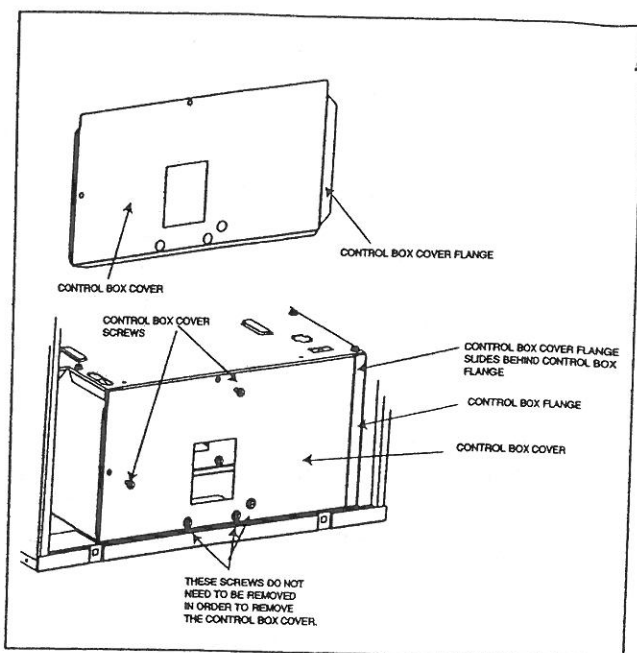

Figure 19. Installation of Control Box Cover
5. Reinstall the control box cover with the right side behind the control box flange as shown in Figure 19.